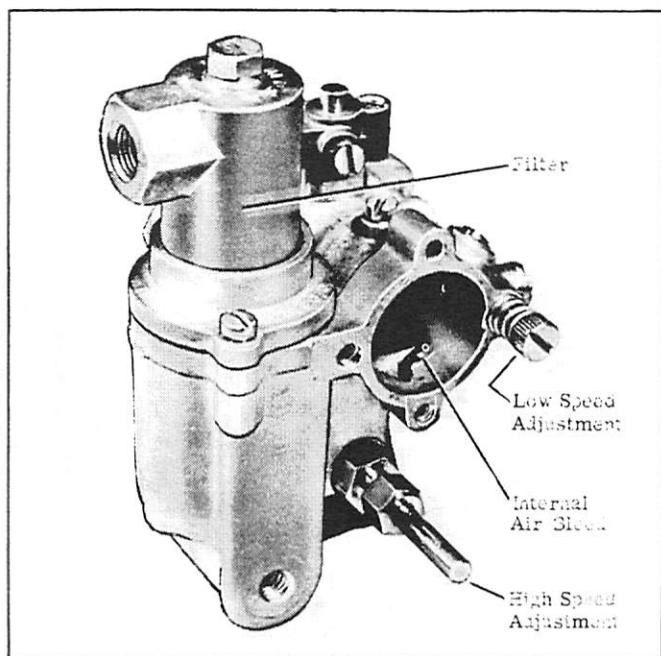

Figure 5
B. Low Speed Adjustment (Figure 5)